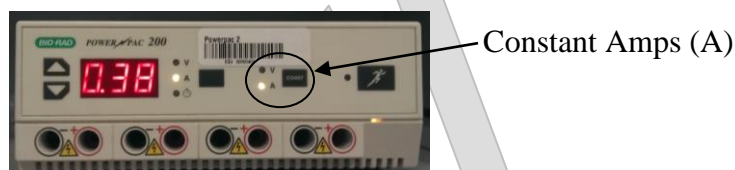

Figure 11
- 5.9. Transfer the proteins on the gel to the nitrocellulose membrane at 0.38A for 1 hour (See Figure 11). Ensure that the constant on the PowerPac is set to Amps (A). **LEAVE THE POWER PAC AT ROOM TEMP.**